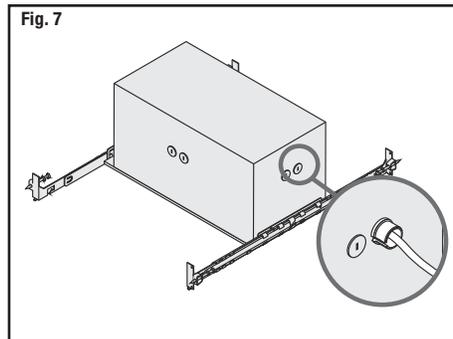

Fig. 7
5. Insert the electrical supply cable through knock-out in the IC box and secure with cable connector (Fig. 7).